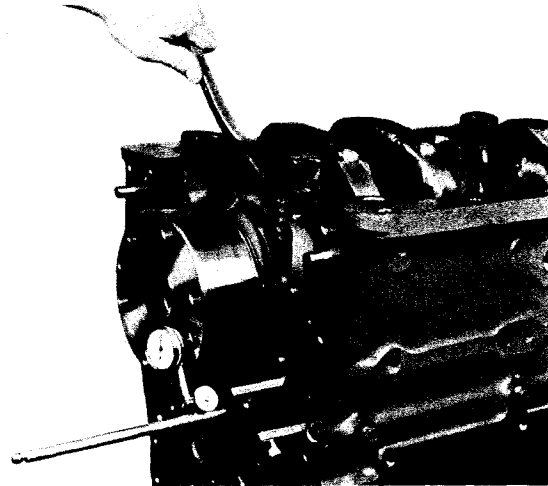

Fig. 14-8, (N114245). Checking crankshaft end play
12. Attach dial indicator gauge securely to rear of cylinder block with contact point of gauge resting on crankshaft flange end face. With a pry bar, pry crankshaft toward front of engine. Remove pry bar and set gauge at "0". Fig. 14-8.